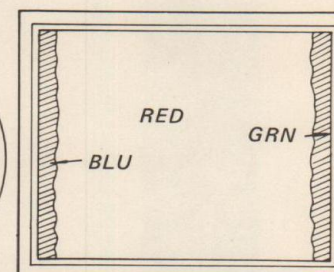

Fig. 4-2.
- Turn purity control to centre vertical red band as shown in Fig. 4-2.